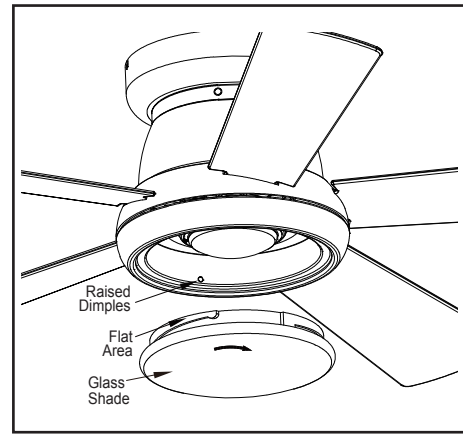

Figure 13
5. Place the glass shade into the light kit pan, aligning the three flat areas on the top of the glass shade with the three raised dimples in the light kit pan. Turn the glass shade clockwise until it stops. (Figure 13)